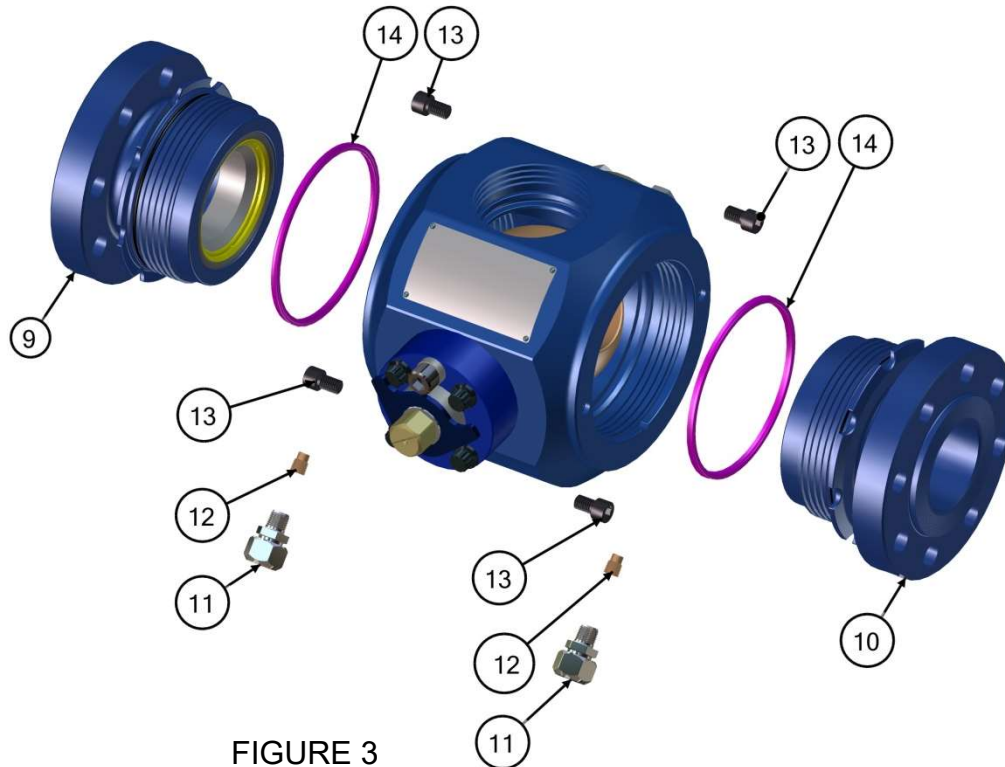

FIGURE 3
- 1) Mark the left (9) (**FIGURE 3**) and right (10) tailpieces so they are identified from which side of the body they originate.
- 2) Remove the button head fittings (11) and inner check valves (12) from the tailpiece flanges.
- 3) Remove the tailpiece locking bolts (13) from the valve.
- 4) Remove the tailpieces (9) and (10) from the assembly by rotating tailpieces in a counterclockwise direction.